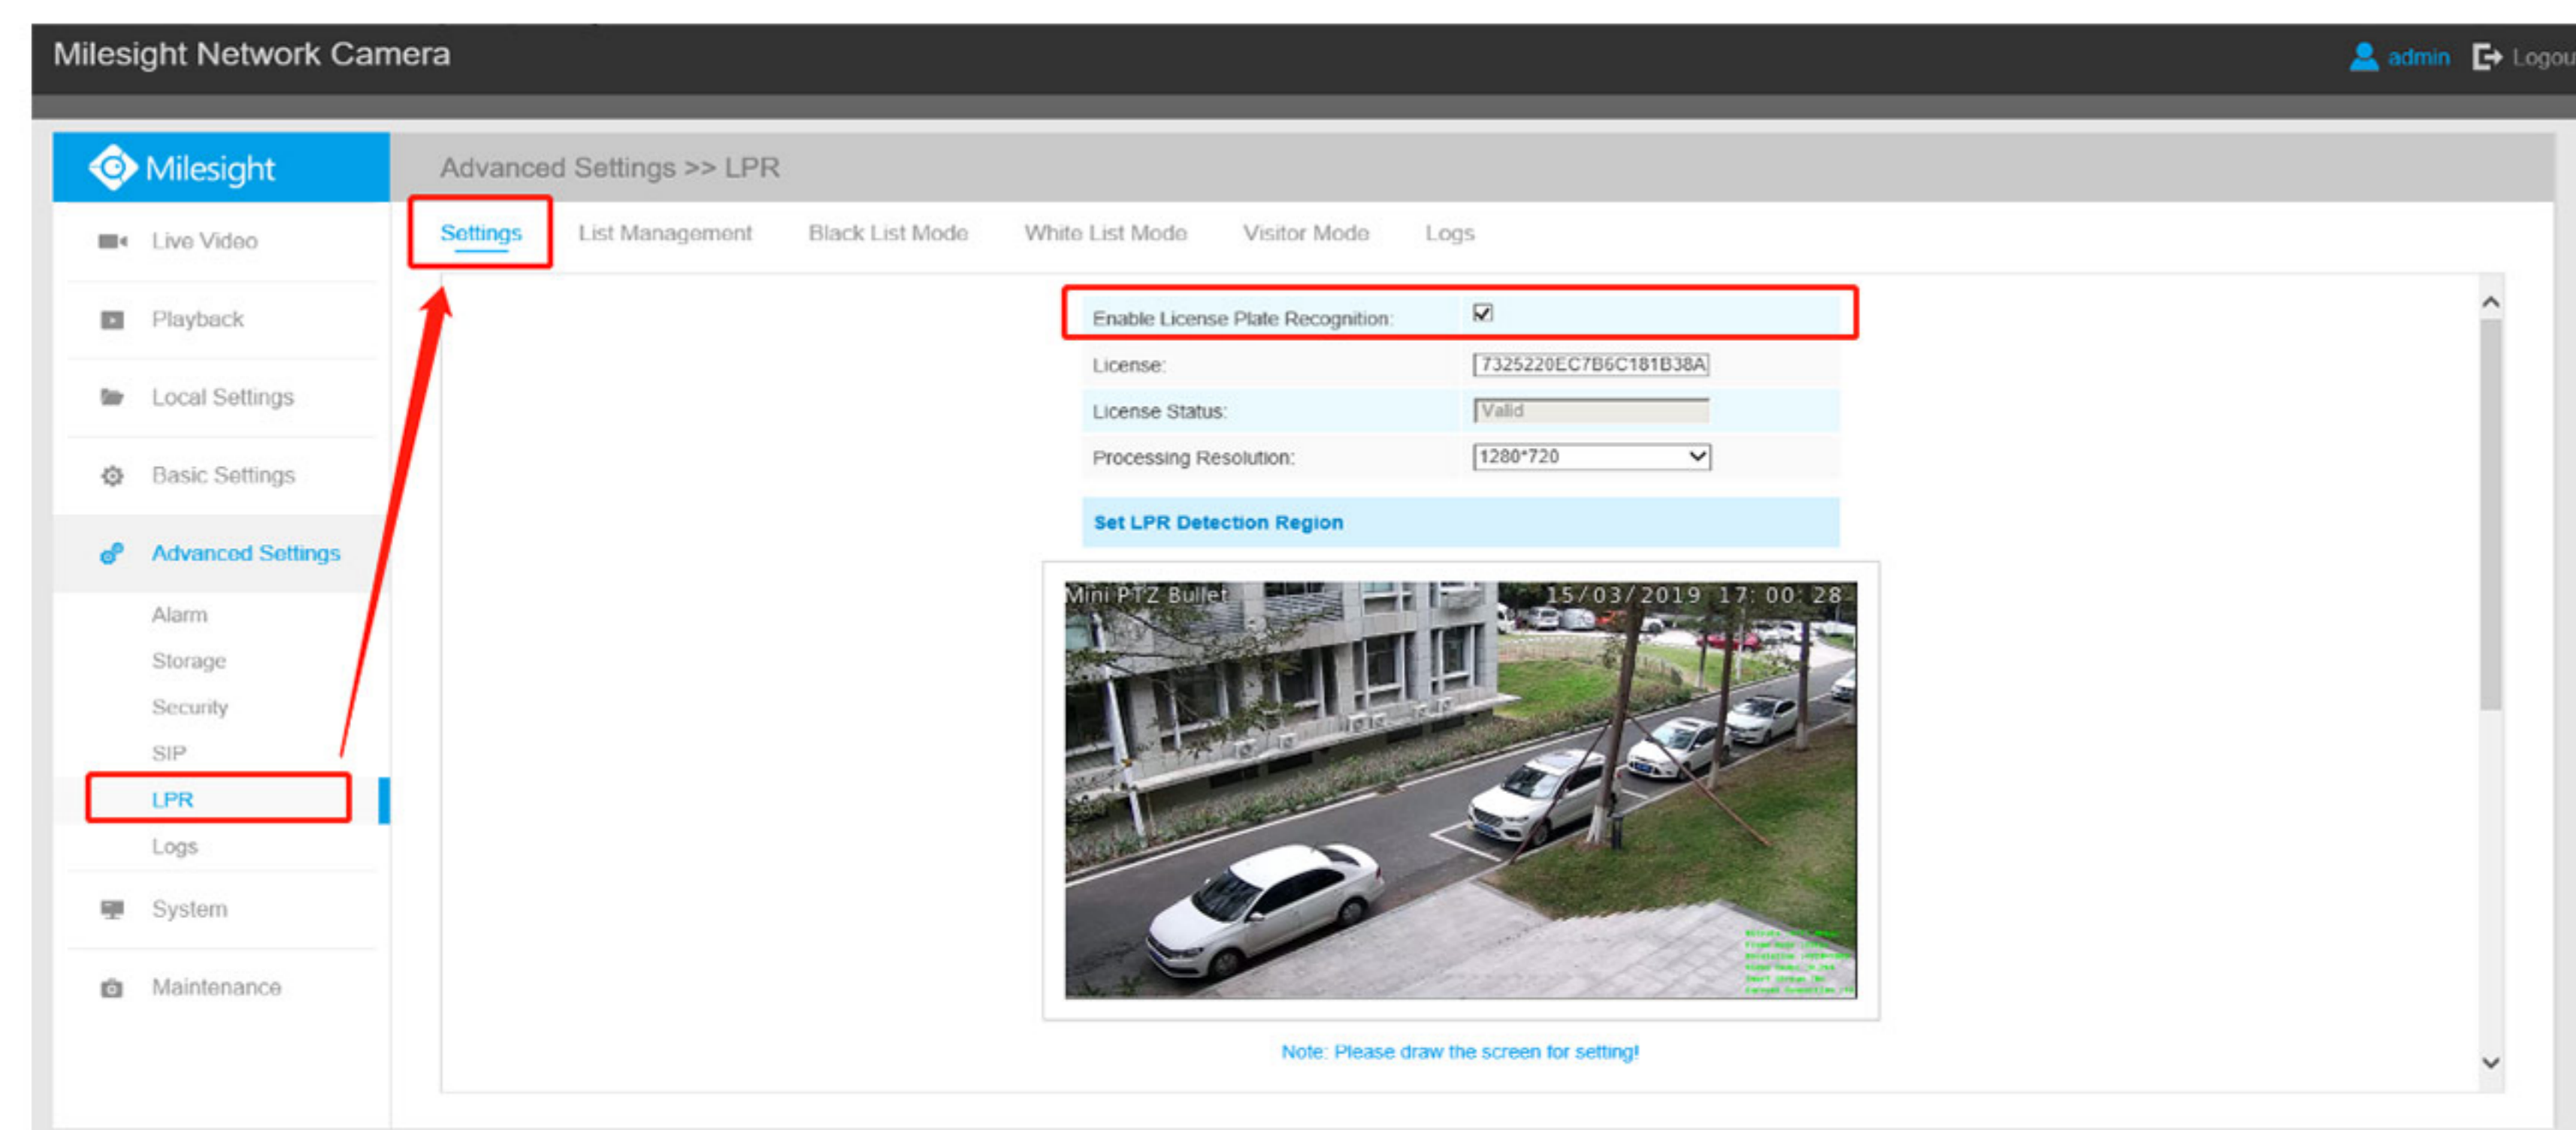

Figure 6
Step 1: After log in the web, and go to Advanced Settings → LPR → Settings. Check the checkbox Enable License Plate Recognition, you can draw the screen to select area interested; (Figure 6)